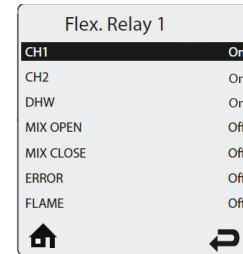

Fig. 16: Flex. Relay 1 Settings
- Once the Relay's actions have been selected, scroll down and hit enter on the **Save and Exit** option at the bottom. This relay shown in Fig. 16 is set to turn on the pump wired to the boiler pump terminal for CH1, CH2 and DHW calls.